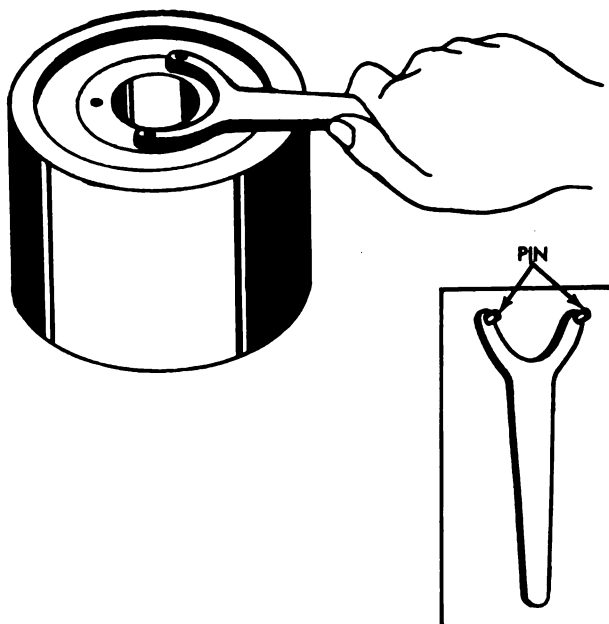
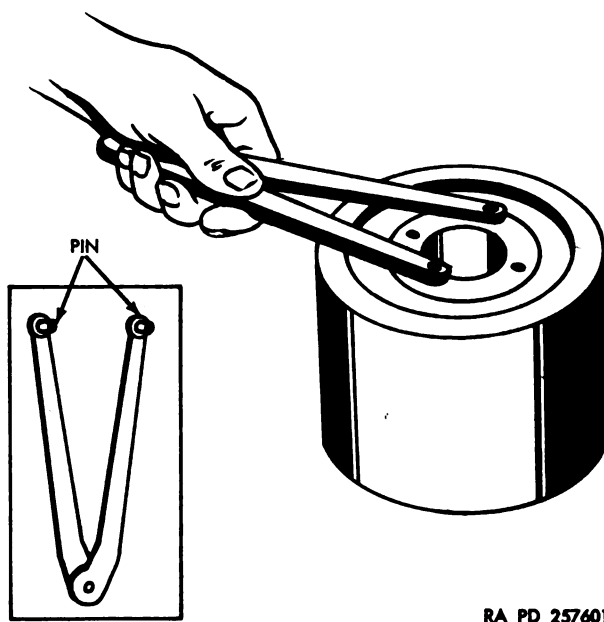

Figure 130. Using a pin-face spanner wrench.
Figure 131. Using adjustable spanner wrench.
i. Spanner Wrenches. When using a pin-face spanner wrench (fig. 130), insert the pins or lugs into the pin holes of the part. Keep the pin face of the wrench flush with the part surface and turn the wrench. Exert enough force against the wrench so that the pins do not jump out of the holes. Hose coupling spanner wrenches are shaped so that they fit around the coupling with the pin or lug at right angles to the handle. Insert the pin in the hose coupling pin hole. Pull or push the handle in the direction opposite the hook of the spanner wrench. Make certain the pin fits the hole and the force is applied with the handle perpendicular to the work. Use of an adjustable spanner wrench is shown in figure 131.